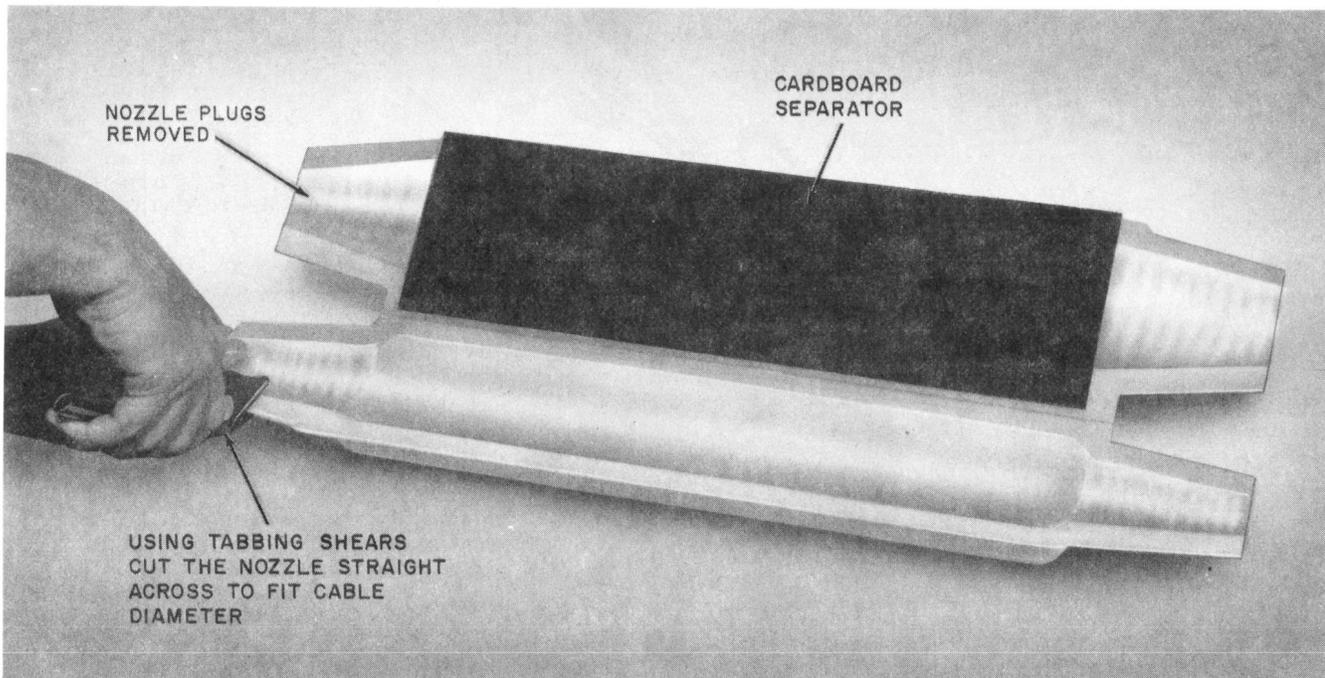

Fig. 11—Cutting Nozzle to Fit Cable Diameter
3.13 Using B measuring tape, measure the cable diameter, then using *tabbing shears* cut the nozzle straight across at each end to fit the cable diameter (Fig. 11).